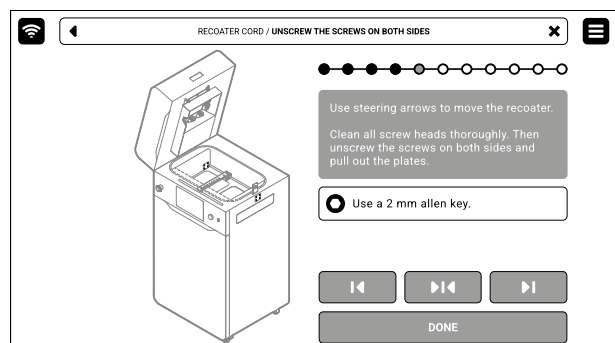

Fig. 12.13 Unscrew the screw of the Recoater cord.
11. Using a 2 mm allen key, unscrew the screws on the Recoater cord mounting plate on the left and right side (fig. 12.13).